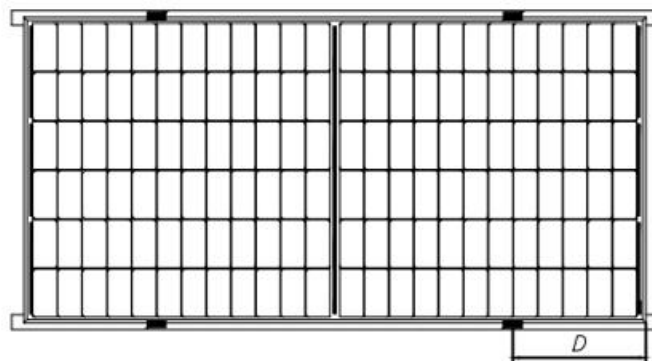
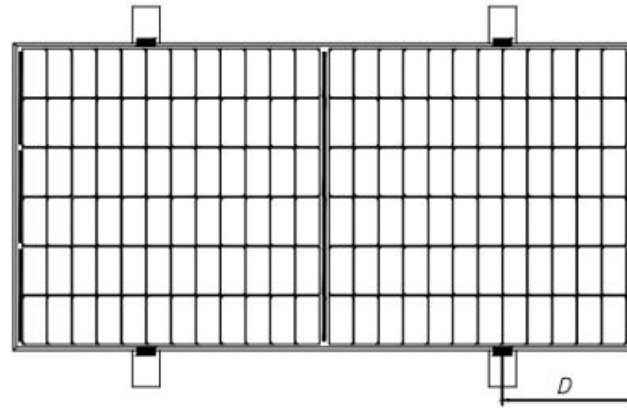
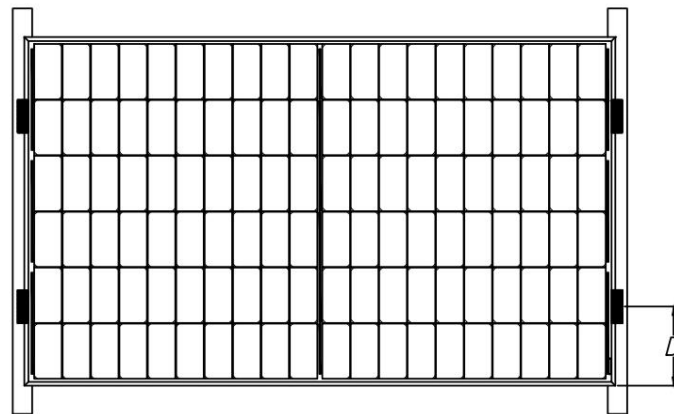
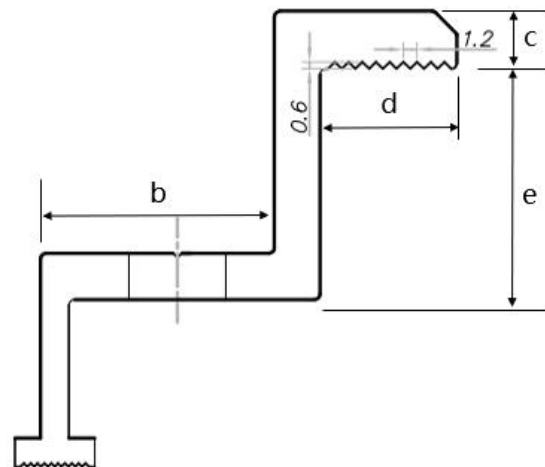

Figure3 The guide rail is fitted with a long frame
Figure4 Rail vertical long frame mounting
Figure5 The guide rail is fitted with a short frame
Figure8 Cross-section diagram of the side pressing block
When installing double-sided photovoltaic modules, each photovoltaic module must be fixed using at least 4 blocks, as shown in Figure 3, Figure 4, Figure 5.
⑦To prevent the assembly from falling off the frame after installation, it is recommended to select the edge mounting press block and the middle mounting press block with pattern groove structure on the contact surface of the frame A, the recommended number of pattern groove structure is about 9, the distance between adjacent pattern groove is about 1.2mm, and the depth of pattern groove is about 0.6mm, as shown in Figure 8. 8 For the installation method shown in Figure 3, the overlap between surface C of the Module and the guide rail should be  $\geq 25\text{mm}$ . If you use an inappropriate fixture or an incorrect mounting method, the limited warranty will be void.